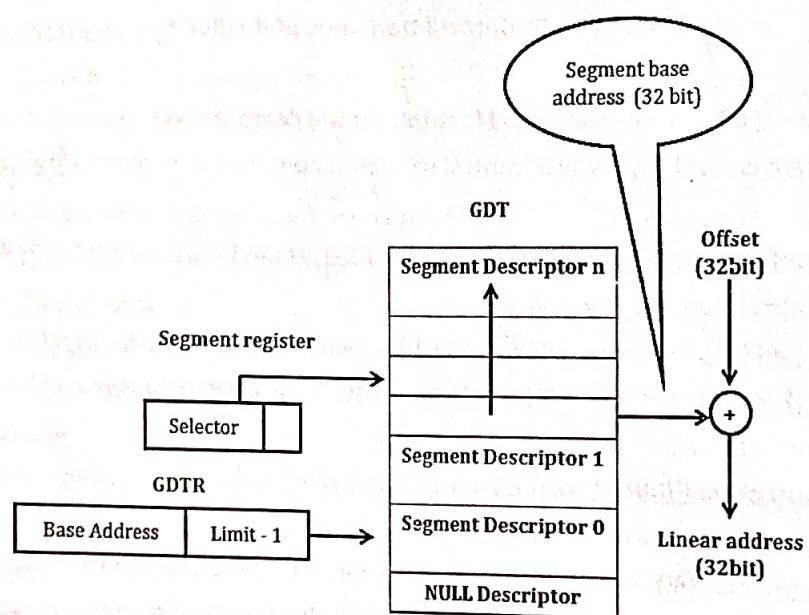

Figure 5.13: GDT Structure.
7. Figure 5.13 shows the structure of GDT.